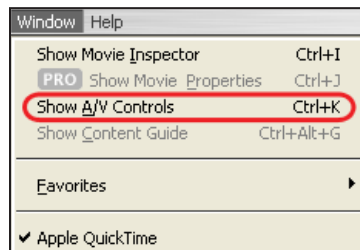

Figure 56. QuickTime Player Menu — Show A/V Controls
2. The QuickTime media player appears. While playing a SME 100 stream (see the "Playing a Pull Stream Using QuickTime Media Player" section on page 162), from the **Window** menu, select **Show A/V Controls** (see figure 56).